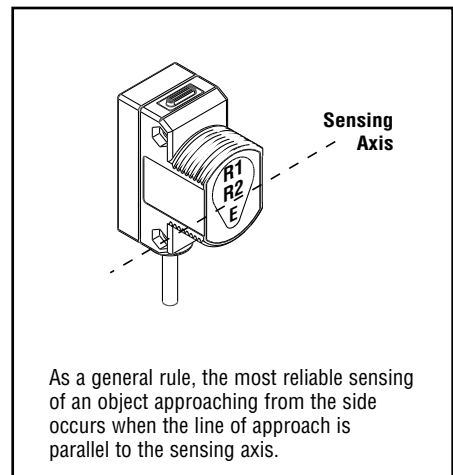
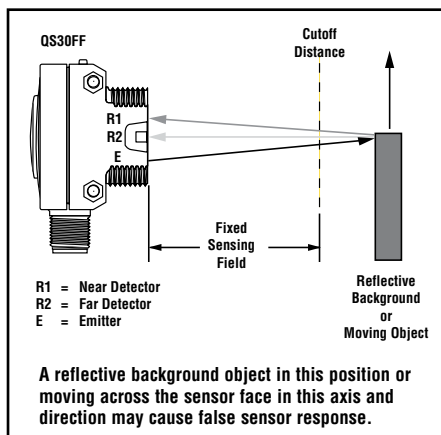
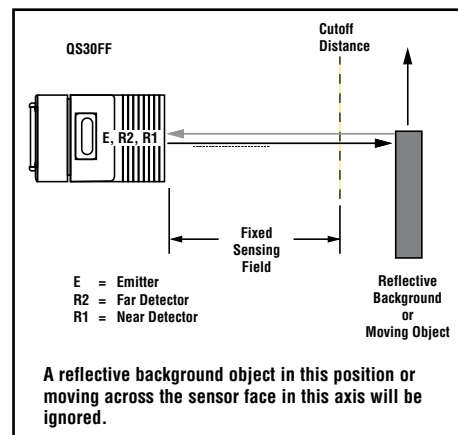

Figure 2. Fixed-field sensing axis
Figure 5. Object beyond cutoff – problem
Figure 6. Object beyond cutoff – solution
In operation, the QS30FF compares the reflections of its emitted light beam (E) from an object back to the sensor's two differently-aimed detectors R1 and R2 (see Figure 2). If the near detector (R1) light signal is stronger than the far detector (R2) light signal (see object A, closer than the cutoff distance), the sensor responds to the object. If the far detector (R2) light signal is stronger than the near detector (R1) light signal (see object B, object beyond the cutoff distance), the sensor ignores the object.
In the drawings and discussion on these pages, the letters E, R1, and R2 identify how the sensor's three optical elements (Emitter "E", Near Detector "R1", and Far Detector "R2") line up across the face of the sensor. The location of these elements defines the sensing axis (see Figure 2). The sensing axis becomes important in certain situations, such as those illustrated in Figures 5 and 6.
An object beyond the cutoff distance, either stationary (and when positioned as shown in Figure 5), or if it moves past the face of the sensor in a direction perpendicular to the sensing axis, can cause unwanted triggering of the sensor if it reflects more light to the near detector than to the far detector. The problem is easily remedied by rotating the sensor 90° (Figure 6). The object then reflects the R1 and R2 fields equally, resulting in no false triggering. A better solution, if possible, may be to reposition the object or the sensor.